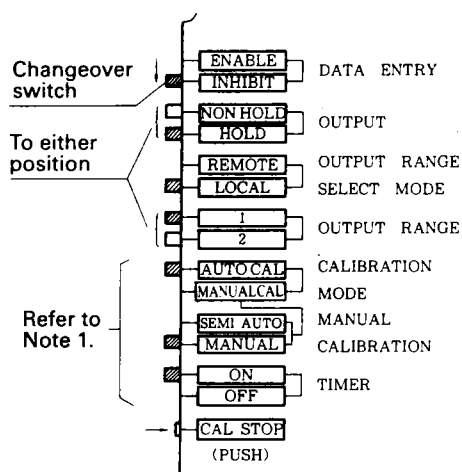

Figure 6.4 Changeover Switch
- (3) Open the operation panel and confirm the settings of the 8 slide switches located on the inside edge. The initial position of these switches should be as shown in Figure 6.4.